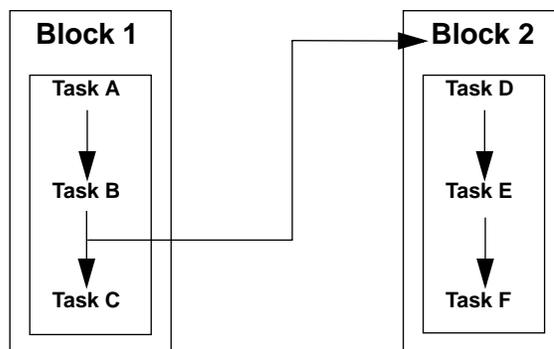

Figure 6. Using a Control List
- **Control list** - Through its control list, a task can start another sequence or any top-level task within the current sequence. When a task starts multiple tasks, all tasks run simultaneously. For example, in Figure 6, Task B starts Block 2 through its control list. Assuming that only Block 1 is initially active, Task A runs, then Task B runs. When Task B completes, Task C and Task D begin to run simultaneously.